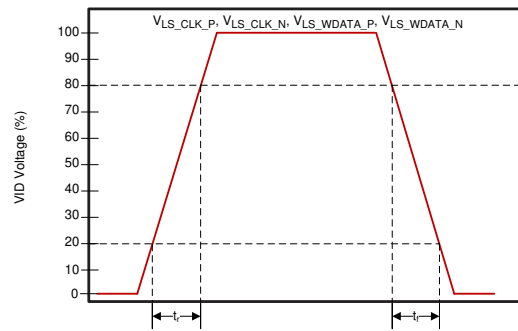

图 5-5. LSIF Rise, Fall Time Slew
- (2) See 图 5-5 for rise time and fall time for LSIF.